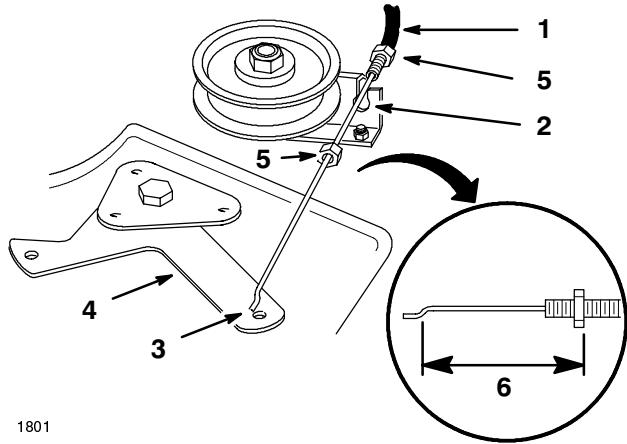

**Figure 47**
9. Check that both rods extend  $5/8"$  (15.875 mm) beyond adjustment block (Fig. 47).
10. Slide the end of the long rod through the hole in the mower mount (Fig. 47). Install the washer and hair pin cotter to secure the rod in place. Repeat this step on the opposite side of the mower.
11. Mount the slotted mower leveling bracket onto the pin on the mower mount (Fig. 47). Install the washer and hair pin cotter to secure the mower. Repeat this step on the opposite side of the mower.